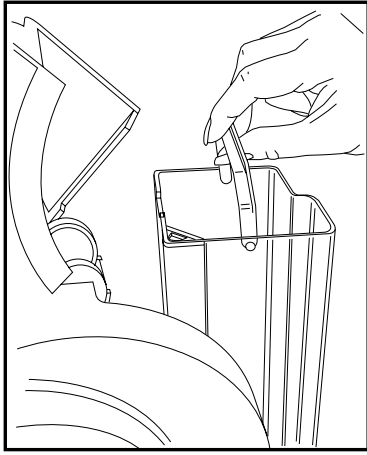

fig. 2
- Do not try to run the appliance with a converter on other current or hertz (HZ) cycle.
- c. Use handle to remove water tank and fill with cold, fresh water (fig. 2).